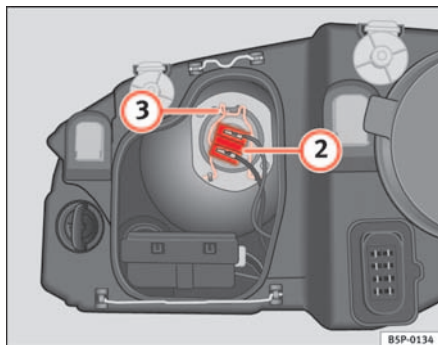

Fig. 157 Dipped head-lights
- Remove the connector ⇒ fig. 157 ② from the lamp.
- Disengage the retainer spring ⇒ fig. 157 ③ pressing inwards and to the right.